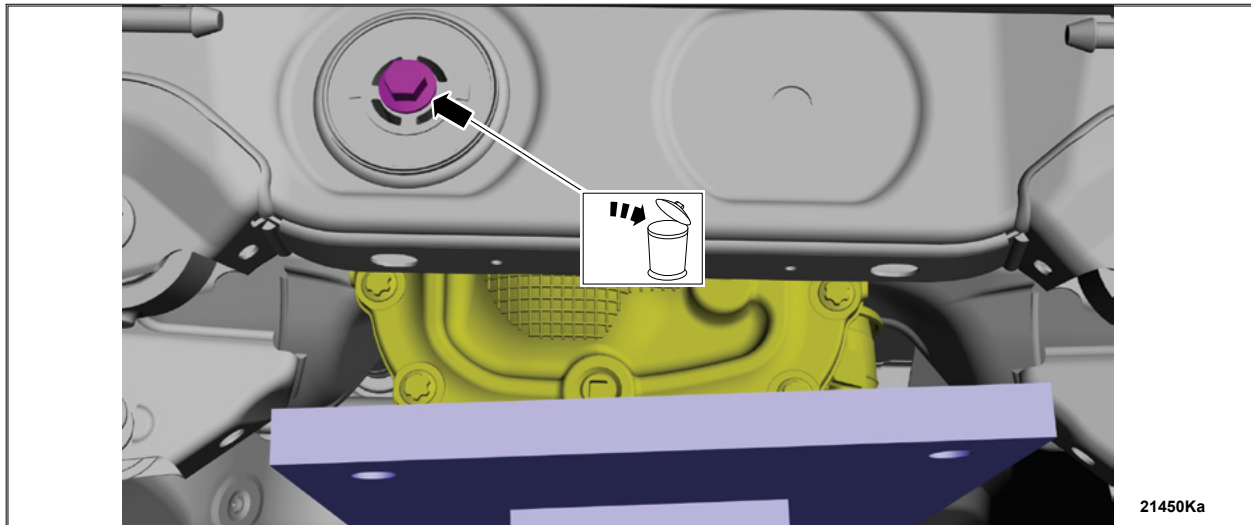

FIGURE 11
18. Remove and discard the rear axle housing support rear bolt. See Figure 11.